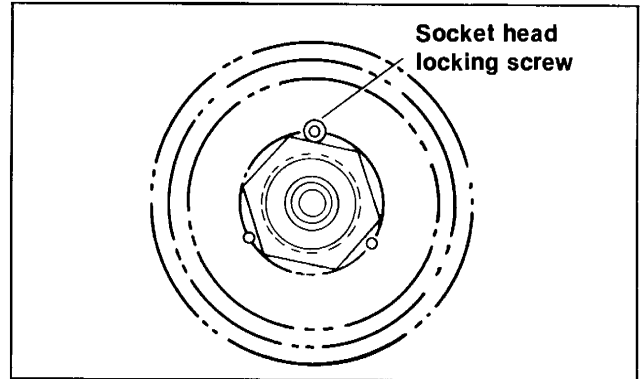

Figure 7-13. Sprocket Nut Secured
4. See Figure 7-13. If main drive gear (9, Figure 7-26) is to be removed, lock transmission as above, remove locking screw from sprocket and loosen sprocket nut using special WRENCH, Part No. HD-94660-37. Nut has left hand thread.